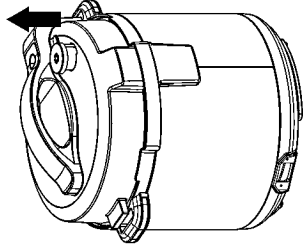

Figure 4
- A. **Natural Pressure Release Method:** After cooking cycle is complete, let Multi-Cooker naturally release pressure through the Bobber Valve. Unit will gradually cool down on its own. Wait at least 10 minutes after cooking has completed, and then, using a kitchen utensil, flick the tab on the Steam Release Valve to the "Release" position (see Figure 4). Do not place any part of your hand or body over the steam outlet on top of the valve, as steam is very hot and can scald skin. The pressure has been released when steam is no longer escaping from the valve and the Lid opens freely with minimal force. Only then is it safe to remove the Lid and serve food.
- B. **Quick Pressure Release Method:** Using a kitchen utensil, flick the tab on the Steam Release Valve to the "Release" setting (see Figure 4). Steam will release rapidly from the Steam Release Valve. Do not place any part of your hand or body over the steam outlet on the top of the valve, as steam is very hot and can scald skin. **Never use this method when cooking liquid ingredients such as casseroles, stocks and soups. Never use this method when cooking rice, as rice tends to be very delicate.** The pressure has been released when steam is no longer escaping from the valve and the Lid opens freely with minimal force. Only then is it safe to remove the Lid and serve food.